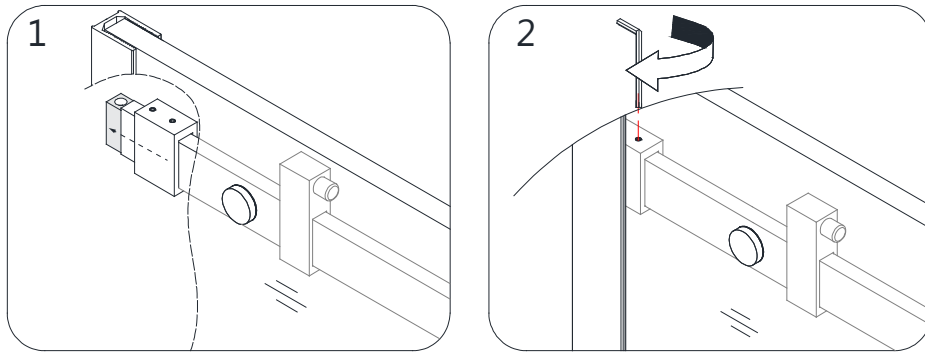

Fig 15
15. Align the panel end of the **Guide Rail (#04)** with the installed **Guide Rail Wall Bracket (#6b)**. Slide the **Guide Rail Bracket (#6a)** over the **Guide Rail Wall Bracket (#6b)** and tighten the set screws. **(Fig 15)**